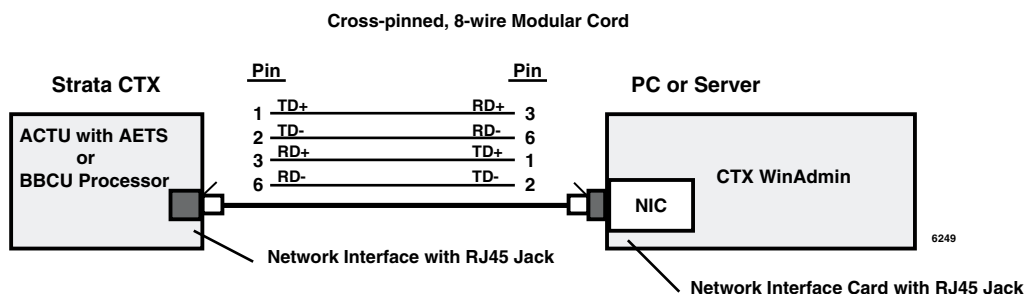

Figure 3-1 Direct Connection to Strata CTX
1. Connect the RJ45 cable between your PC's NIC jack and the Strata CTX Network Interface jack. If you are connecting to Strata CTX directly without using a Network hub, use an RJ45 cross-pinned cable. If you're connecting to the Strata CTX via a hub, use a straight-pinned RJ45 cable. See Figures 3-1 and 3-2.